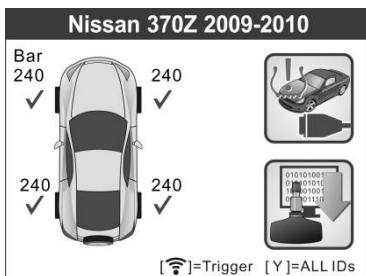

Figure 4-15
- 2) An activation screen with the previously activated sensor information will show up (*Figure 4-15*). Use the **UP/DOWN** or **LEFT/RIGHT** scroll button to select the desired wheel, and press the **TEST** button to reactivate the sensor, or press the **Y** button to view all detailed sensor data (*Figure 4-16*).